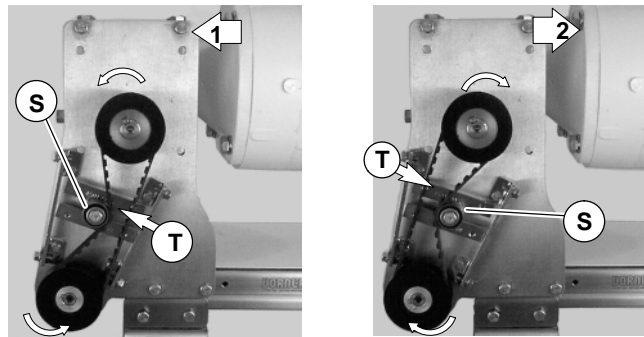

Figure 32
10. Depending on conveyor belt travel (1 or 2 of Figure 32), locate timing belt tensioner (S), as shown. Tension timing belt to obtain 1/8" (3 mm) deflection for 1 lb (4.3 N) of force at timing belt mid-point (T). Tighten tensioner to 38 ft-lb (51 Nm).